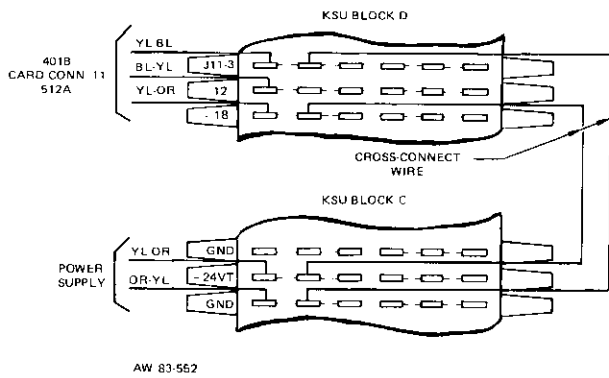
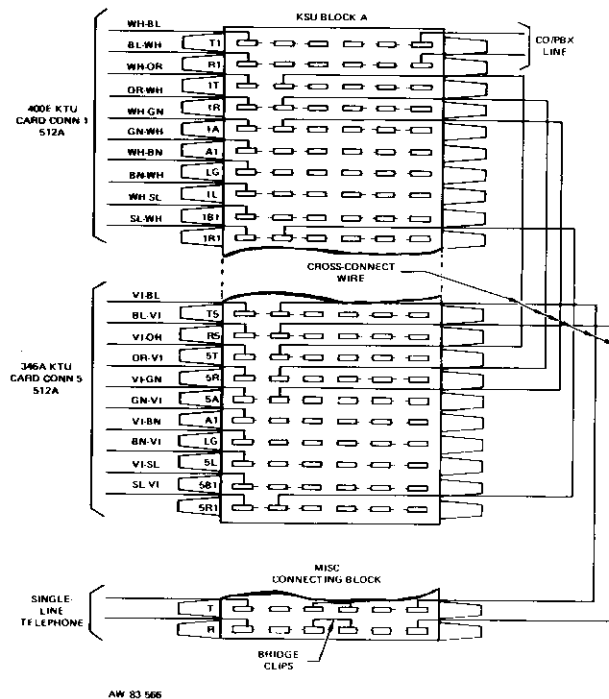

Figure 10: Connecting Details, A Battery and A Ground
Figure 17: Connecting Details, 346A KTU
- (a) On KSU connecting block D, locate the Jn-3, -12, and -18 terminals associated with the card connector for the 401B KTU. Connect the Jn-3 terminal to terminal GND(C34) on KSU connecting block C. Connect the Jn-18 terminal to terminal - 24VT(C33) on connecting block C. An example of these cross-connections is shown in Figure 10. The example shows A Battery and A Ground wired to card connector 11.
- (a) On KSU connecting block D, locate the Jn-3, -12, and -18 terminals associated with the card connector for the 401B KTU. Connect the Jn-3 terminal to terminal GND(C34) on KSU connecting block C. Connect the Jn-18 terminal to terminal -24VT(C33) on KSU connecting block C. Refer to Figure 10 for an example of these connections.
- (b) On KSU connecting block D, locate the Jn-3, -12, and -18 terminals associated with the card connector into which the 346A KTU was inserted. Connect the Jn-3 terminal to terminal GND(C34) on KSU connecting block C. Connect the Jn-18 terminal to terminal -24VT(33) on KSU connecting block C. Refer to Figure 10 for an example of this cabling.
- (1) Connect the T, R, A, and R1 terminals to the T, R, A, and R1 terminals for the associated line card KTU.
- (2) Connect the Tn and Rn terminals to the MISC connecting block on the MDF for connection to the single-line telephone. (See Figure 17.) Multiple the leads to all assigned single-line telephones.